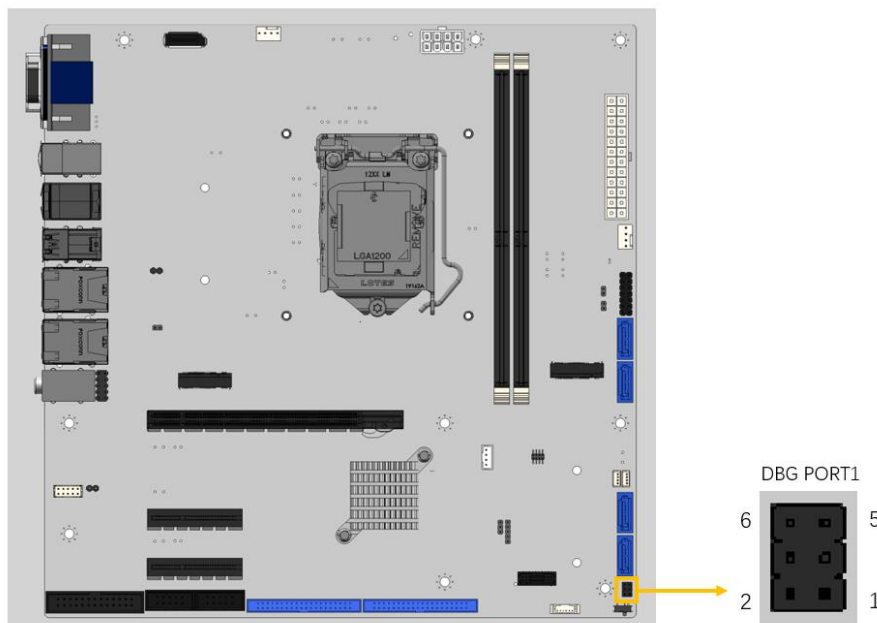

Figure 3-10: Debug Port Connector Location
- CN Location:** See **Figure 3-10**